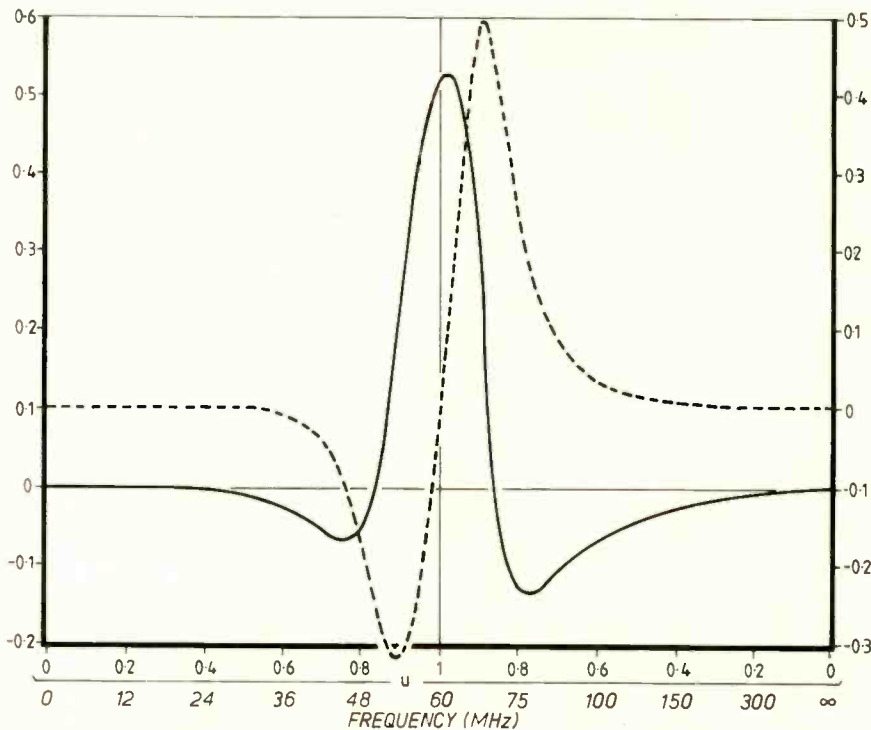

Fig.9. Real part (b) of transfer characteristic of band-pass filter, with its imaginary part at (a).
network function is derived from data on the imaginary part. Figure 9 gives the two analytically derived responses, which are the characteristics of the top-capacitively-coupled band-pass filter shown in Fig.10. The results are accurate to 0.02 worst case, with most of them well within this margin.
**Example 7.** The imaginary part of the network function shown in Fig.9 is asymptotic to zero at high as well as low frequencies, so it can be investigated by the methods of this section, using the same input data as was used in example 5 (i.e. the triangles in Fig.9).